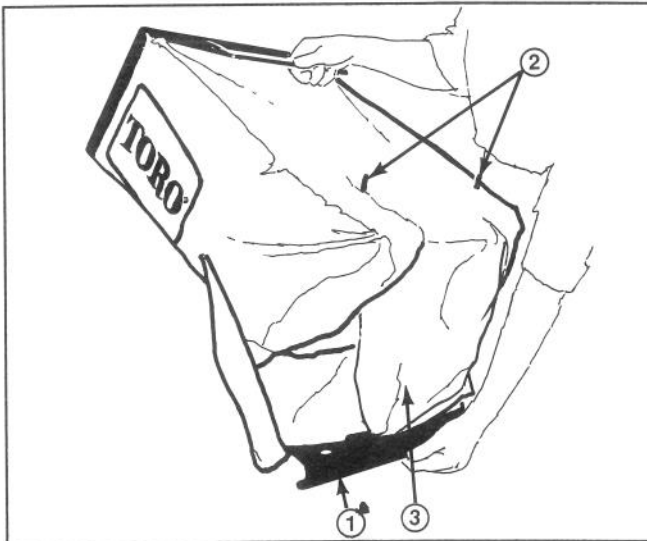

Figure 13
4. Grasp bag frame handle. Lift plastic bar off pins and slip rear of grass bag off bag frame until plastic bar touches underside of grass bag (Fig. 13). Lift up grass bag flap covering rear of bag. Gradually raise front of bag while shaking bag to empty.